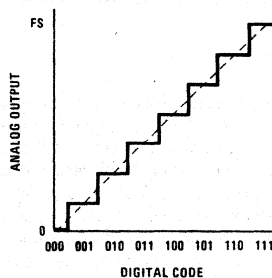

FIGURE 1. Linear DAC Transfer Curve Showing Minimum Resolution Error and Best Possible Accuracy
**Accuracy** is sometimes considered to be a non-specific term when applied to D/A or A/D converters. A linearity spec is generally considered as more descriptive. An accuracy specification describes the worst case deviation of the DAC output voltage from a straight line drawn between zero and full scale; it includes all errors. A 12-bit DAC could not have a conversion accuracy better than  $\pm\frac{1}{2}$  LSB or  $\pm 1$  part in  $2^{12+1}$  ( $\pm 0.0122\%$  of full scale due to finite resolution). This would be the case in figure 1 if there were no errors. Actually,  $\pm 0.0122\%$  FS represents a deviation from 100% accuracy; therefore accuracy should be specified as 99.9878%. However, convention would dictate 0.0122% as being an accuracy spec rather than an inaccuracy (tolerance or error) spec.